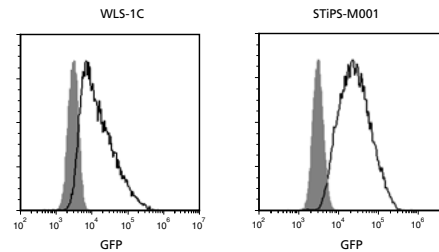

Figure 2. Cas9-eGFP Detection by Flow Cytometry
10. If using Cas9-eGFP Nuclease, the transfection efficiency can be assessed 24 hours after transfection by flow cytometry (see Figure 2).